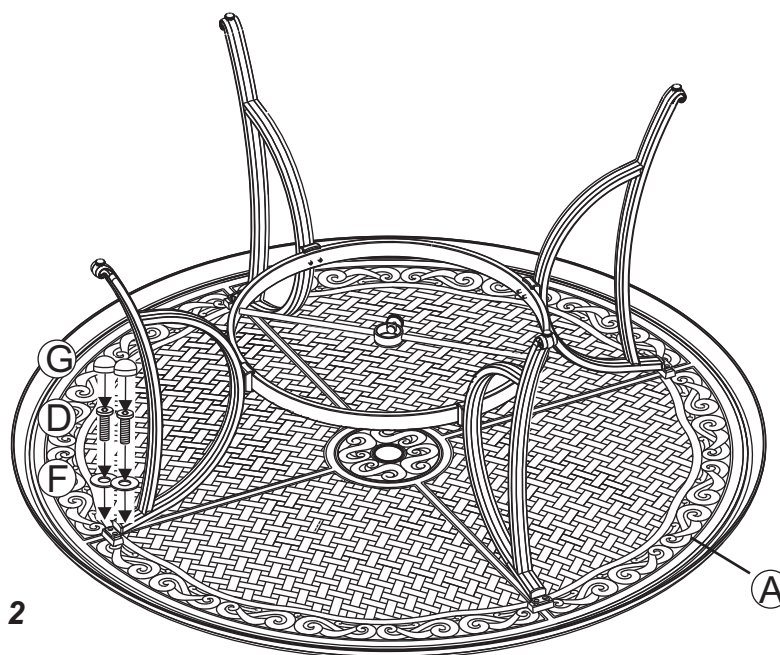

Figure 2
**2** **Critical Step: The "U" metal plates must be installed in the proper location.** Read this step and carefully examine. Insert the "U" metal plate, so that the "U" bar and rocker plate are between both sides of the "U" metal plate. Make sure that the holes in the "U" metal plate are completely aligned with the holes in the "U" bar as shown in **Figure 2**. Guide the bolts through the holes on the top side of the "U" metal plate, through the holes in the "U" bar portion of the chair, through the holes in the rocker plate and then, most importantly, through the holes in the bottom side of the "U" metal plate. It is very important that the holes in the bottom portion of the "U" metal plate be placed directly beneath the holes in the rocker plate. Add a spring washer and a nut to each bolt as shown in **Figure 2**. **Hand tighten nuts 3-4 revolutions only.** Repeat the same procedure on the other side.
- 2 Place the table top upside down on a flat, non-abrasive surface. Attach a table leg to the table top by using the bolts and washers as shown in **Figure 2**. Guide the bolt through the hole in the table leg, into the pre-drilled holes in the table top. **Hand tighten only 2-3 turns**. Repeat for the other three legs.